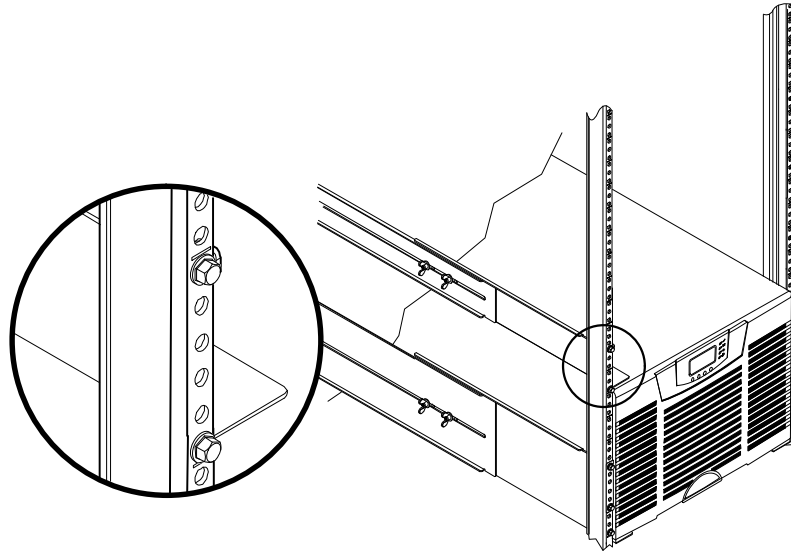

Figure 21. Securing the Front Rail
3. Secure the rail to the front of the rack with two hex-head screws (see Figure 21).